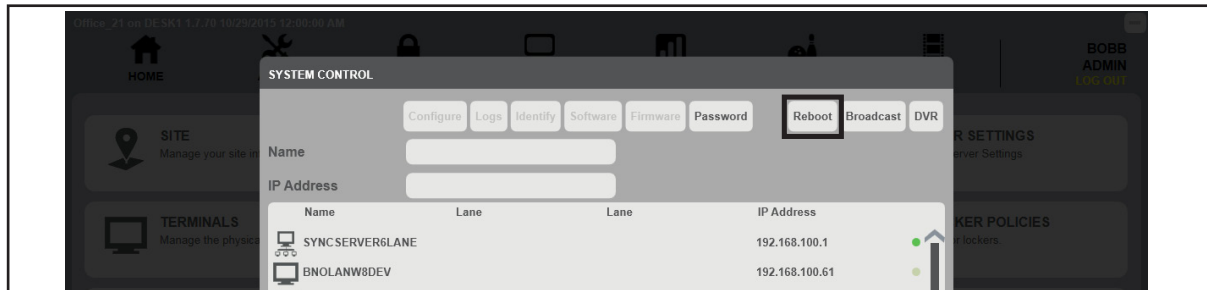

Figure 27. System Control - Reboot
- b. Select Reboot and OK to begin the process. Refer to *Figure 27*.